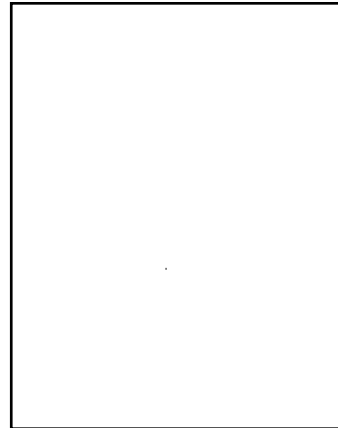

Figure 40
1. When driving or winching vehicle on or off machine, use a helper to guide you. (See Figure 40.) If vehicle's brakes are inoperable, use a Chief Winch and refer to instructions packaged with that accessory.